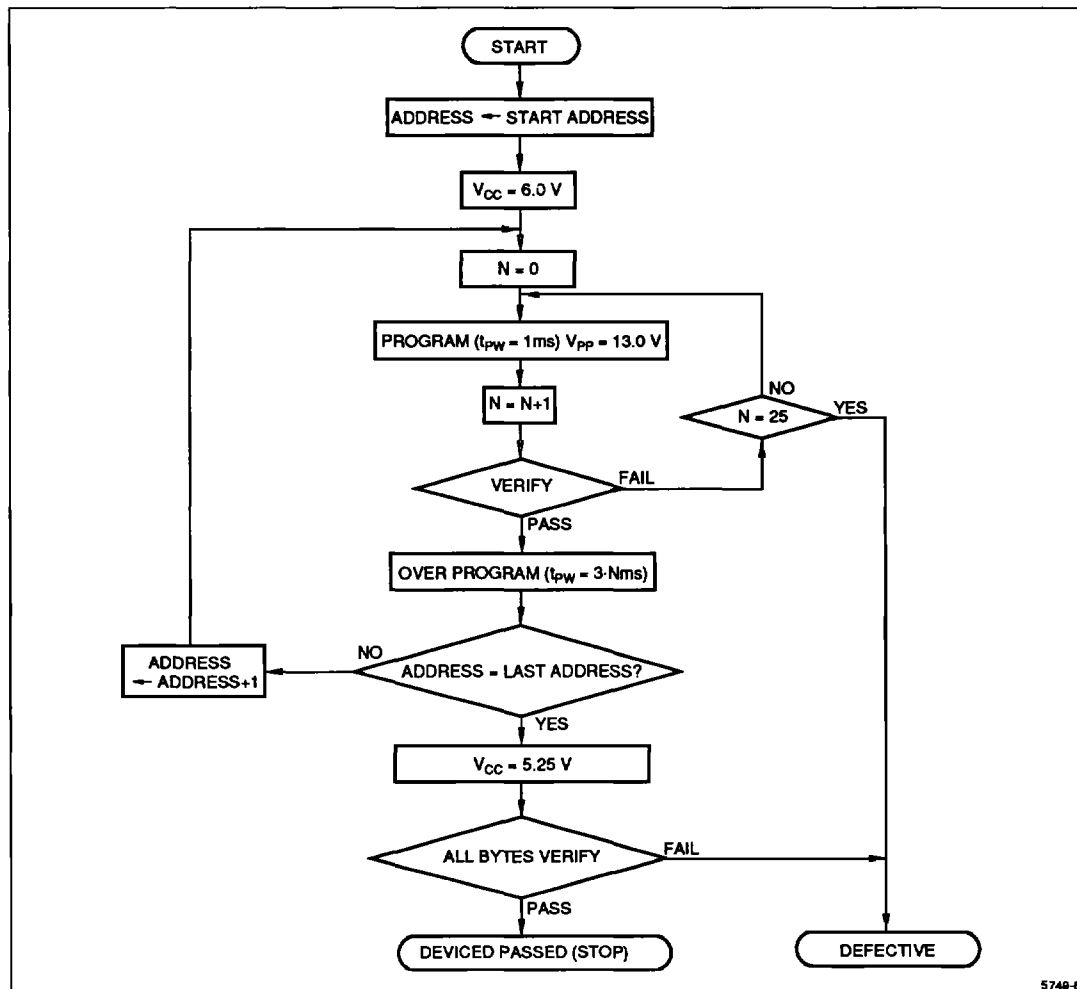

Figure 6. Programming Flowchart
* This width is defined by the Program Flowchart (Figure 6).